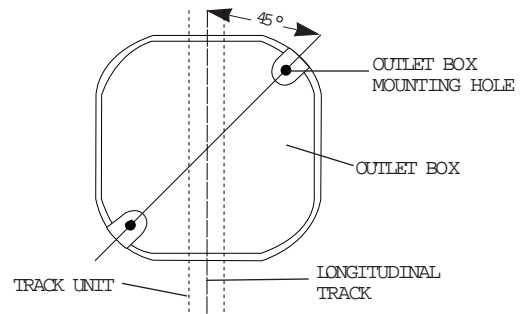

FIG. 1
2. **NOTE:** The CANOPY mounts to a 3 or 4" OCTAGON OUTLET BOX. The MOUNTING HOLES of the OUTLET BOX should be at 45° to the longitudinal axis of the TRACK. (Fig. 1)